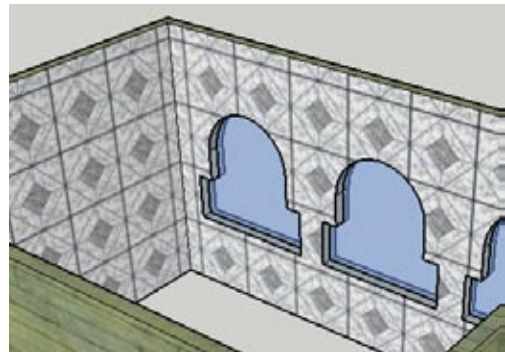

Figure 7-63
12. Orbit to view the back of the windows. The window frames fit exactly within the thickness of the walls (Figure 7-63).